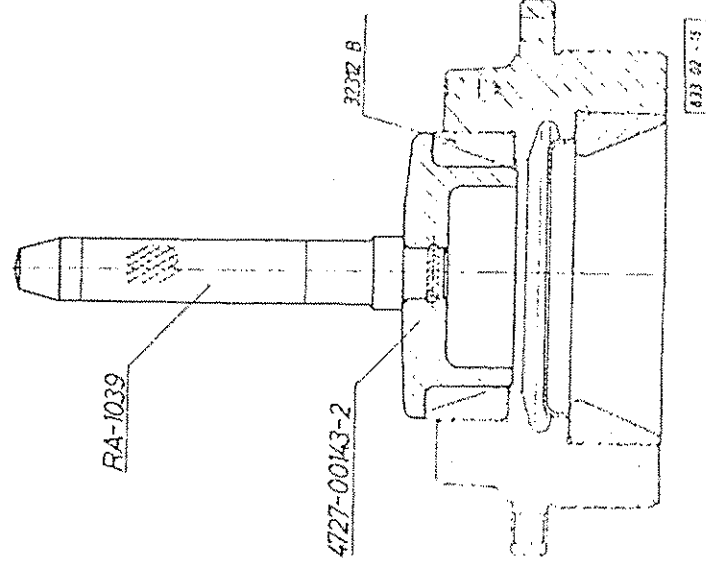

Fig. 6.: DRIVING IN THE CUP OF OUTER TAPER ROLLER BEARING
Turn the bearing cage over and by means of the tools shown drive in the cup of the outer taper roller bearing to bottom out (see Fig. 6.).
By the tool shown in Fig. 6. of Section 313 press the companion flange (3) to the drive pinion. Screw on the flanged castle nut (1) and tighten to **540 - 590 Nm** torque.